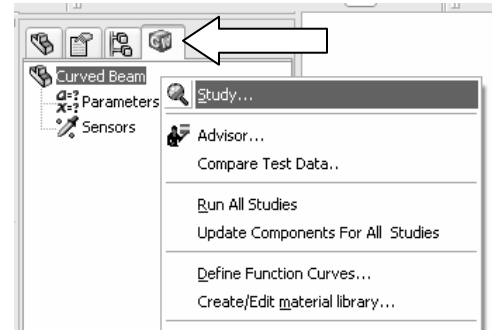

Figure 3 – Opening a COSMOSWorks Study.
3. Click the COSMOSWorks manager icon located at the top right-side of the manager tree shown in Fig. 3. This action activates COSMOSWorks.
4. In the COSMOSWorks manager, Fig. 3, right-click **Curved Beam** and from the pull-down menu, select **Study...**. The **Study** property manager opens (not shown).